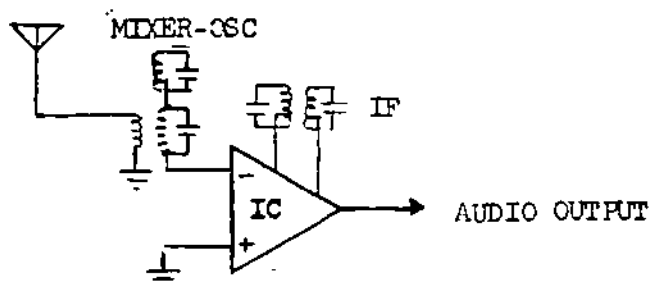

Figure 2
2. Linear IC's are widely used as amplifiers and oscillators in electronic equipment. Some integrated circuits combine these functions to form an entire subsystem as shown in Figure 2.